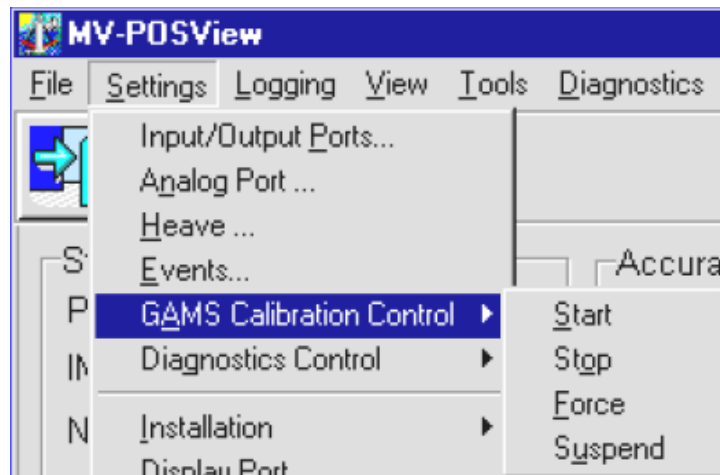

Figure 3-33 GAMS Calibration Control
- Now press *Start* (See Figure 3-33) and sail straight out with a fixed speed until the calibration is completed, GAMS status will change to *Online*.